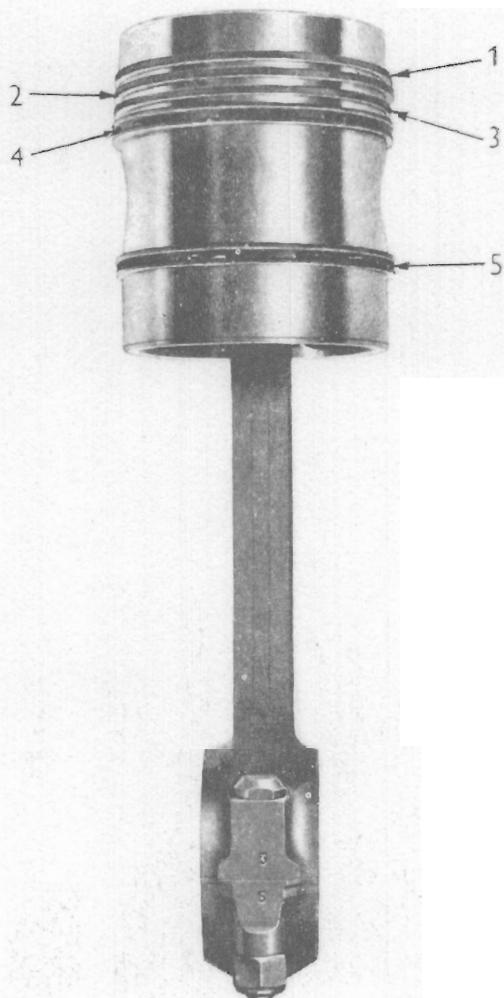

Fig. F.1.
The pistons are of high silicon aluminium and are not graded to bore size. They are not interchangeable between the 4.192 and the 4.203 engine due to difference in bore size. Grooves are provided to take three compression rings and one oil control ring above the gudgeon pin and one oil control ring below the gudgeon pin. (See Fig. F.1).
The connecting rods are numbered on cap and rod, (See Fig. F.1 and F.4) when fitted to the engine in production and the assembly is fitted to the crankshaft so that these numbers are on the fuel pump side of the engine. Always fit the cap to the connecting rod so that the numbers are both on the same side. Never reassemble the cap to the connecting rod incorrectly.
11. Liberally oil and locate the lower half bearings in the cap with the tongue registering in the machined recess and fit the cap to the connecting rod with the stamped numbers together. (See Figs F.1 and F.4).